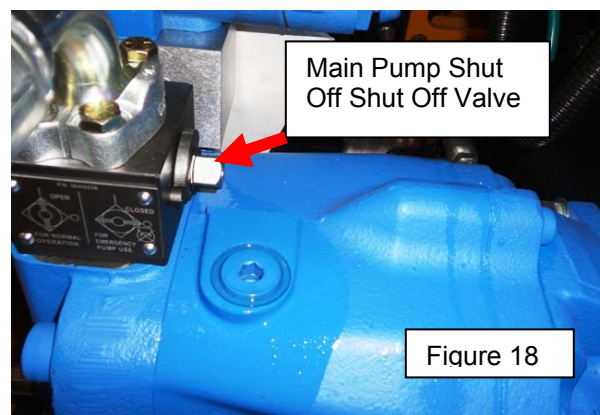

Figure 18
1. Turn the main pump ball valve to the CLOSED position (Figure 18). (Indicator line on ball valve will be perpendicular to flow of the pressure line.)
10. Turn the main pump ball valve to OPEN position (Figure 18) (Indicator line on ball valve will be in line to the flow in the pressure line.)
2. Turn the main pump ball valve to the CLOSED position (Figure 18). (Indicator line on ball valve will be perpendicular to flow of the pressure line.)
14. Release the emergency hydraulic hand pump by turning the pressure release knob (Figure 18) counterclockwise (CCW).
10. Turn the main pump ball valve to OPEN position (Figure 18) (Indicator line on ball valve will be in line to the flow of the pressure line.)